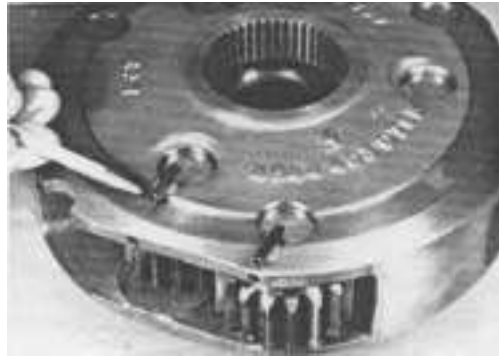

FIGURE 4-385
3. Install the 2 remaining planetary gears. Install the roll pins into all the planetary gears. See Figure 4-385.